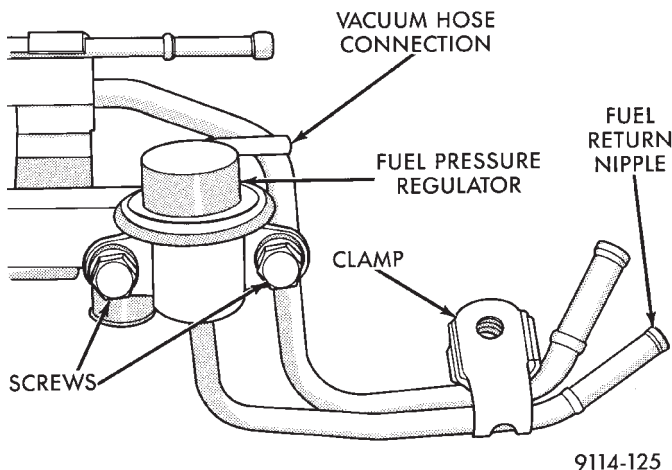

Fig. 14 Fuel Pressure Regulator
- (1) Perform the Fuel Pressure Release Procedure.
- (2) Disconnect negative cable from battery.
- (3) Loosen fuel return hose clamp and remove fuel return hose from nipple.
- (4) Remove vacuum hose from fuel pressure regulator. (Fig. 14)
- (5) Remove screw holding fuel return tube to the intake manifold.
- (6) Remove fuel pressure regulator screws. Remove fuel pressure regulator from engine.